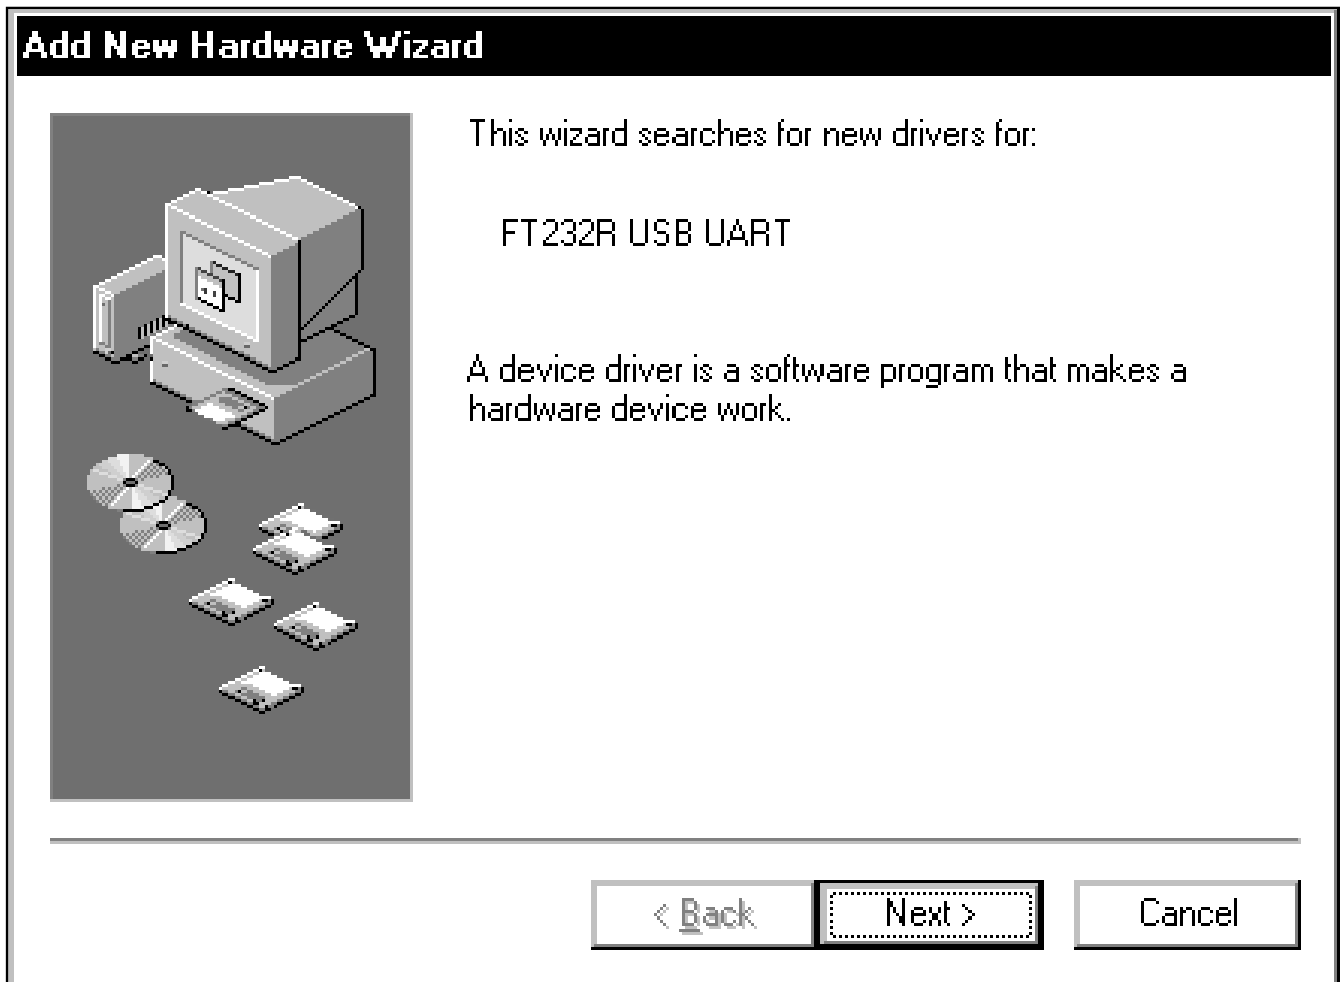

Figure 23. Windows 98SE: **Add New Hardware Wizard | Start** Window
- 1) Once the USBTO232 board is connected to the PC for the first time in Windows 98SE, an **Add New Hardware Wizard | Start** window appears, as shown in Figure 23. Press the **Next** button to get started.